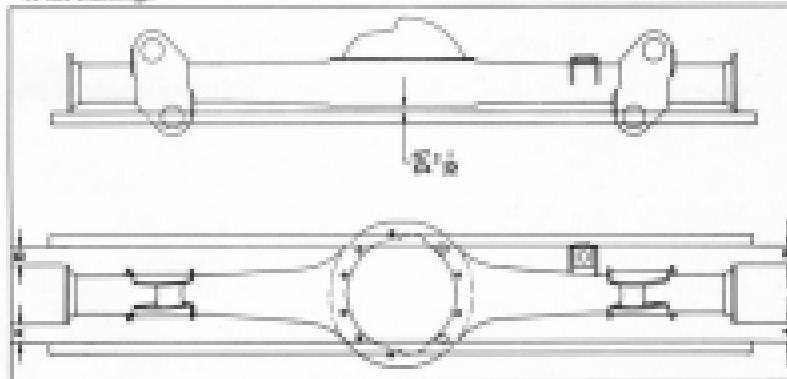

Fig. 128. Checking Horizontal and Vertical Alignment of Axle Housing.
- Check for horizontal alignment by laying bearing flat on table and screw two bolts in place as shown at center of housing, Fig. 128. Then clamp a straight edge against bolt so that "W" at each end will be equal and make note of distance "A". Repeat this same procedure on other side to get distance "B". The difference between "A" and "B" should not be more than $\frac{1}{16}$ ".